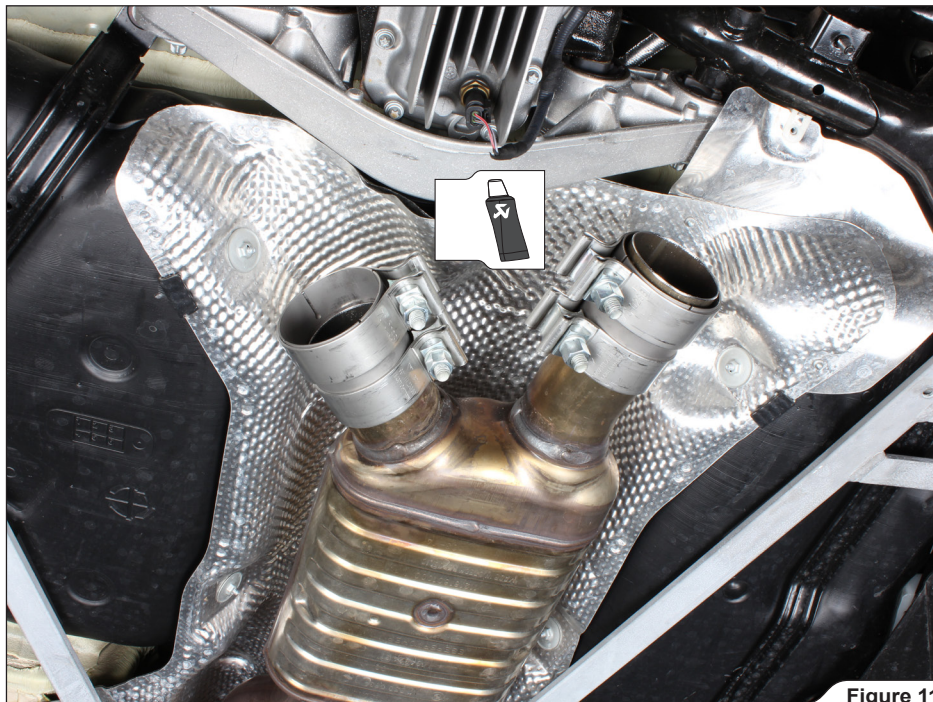

Figure 11
2. Correctly assemble the adapters and clamps and slide them onto the stock link pipes (**Figure 11**).